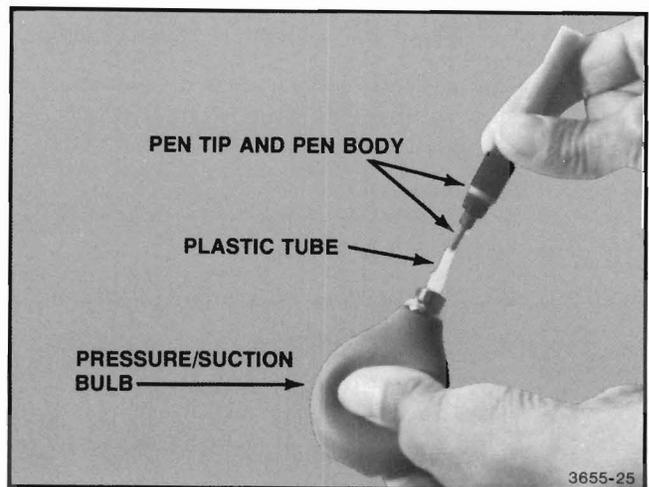

Figure 4-18. Starting Ink Flow With the Pressure/Suction Bulb.
- Squeeze the Pressure/Suction Cleaning Bulb slightly and insert the pen tip into the bulb. When the tip is seated into the bulb, release it. This applies suction on the pen and sucks ink into the tip. See Figure 4-18.